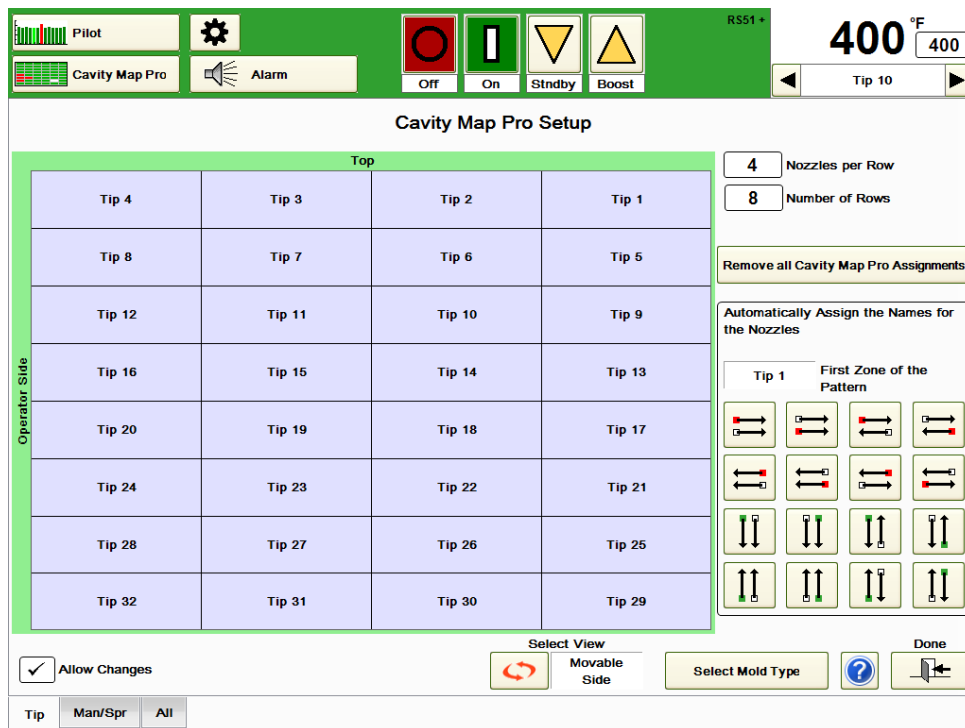

Figure 16c Cavity Map Pro™ Setup (pattern selected)
- 1) Press the **Setup** button shown in Figure 16b. The screen shown in Figure 16c will appear. The words "Top" and "Operator Side" are used to help orient the user.